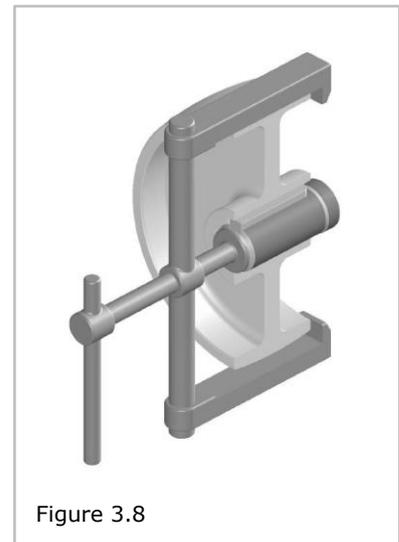

Figure 3.8
By principle, motor disassembly should take place outside the place of its operation, in a specially prepared location. Tools required include a regular set of assembly tools and instruments. Prior to a correct disassembly, take off the motor pulley or the half coupling using a turnbuckle (fig. 3.8), remove the key (7) from the shaft extension, unscrew 4 screws (5) and remove the ventilator cover (13). After unscrewing 4 screws (5) which mount the bearing brackets "P", carefully remove the rotor (1) with the bearing brackets "P" (11) and the ventilator (8) from the stator, without damaging the winding. If it is necessary, or when replacing the grease, remove both bearings (17) using a turnbuckle.